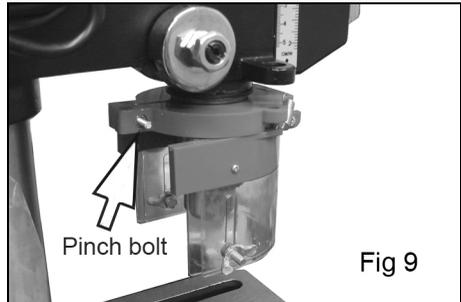

Fig 9
1. Slide the chuck guard over the quill shaft and nip up the pinch bolt, with the pinch bolt at the rear (see fig 9).